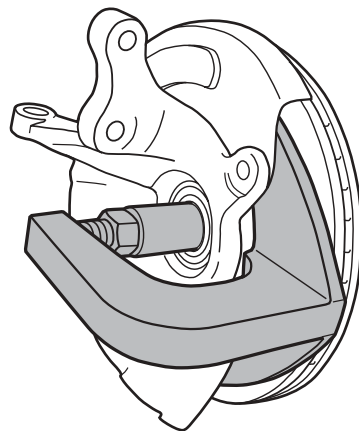

Figure 5
- 2) Insert the pins on the No. 6536 Ford Adapter (item 36) into the holes in the HubTamer yoke. Assemble the bolts as shown in Figure 5—this adds strength to the HubTamer. **Important: If the bolts are not assembled to the adapter and yoke, the adapter may bend during usage.**
- Hand tighten the nut on the end of the forcing screw. Check the alignment of the setup—the yoke assembly must be at a 90° angle to the knuckle. See Figure 5. Verify the HubTamer will be pushing on the knuckle casting, NOT the dust shield.